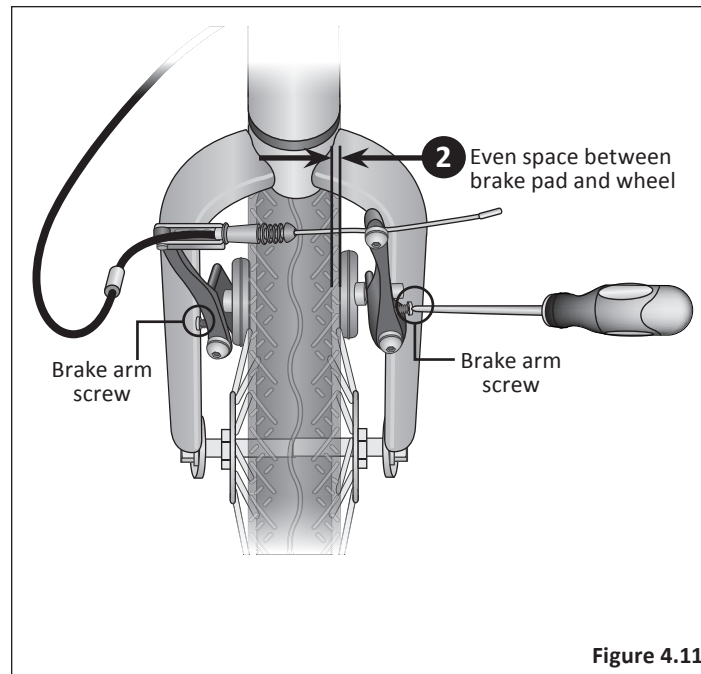

Figure 4.11
- Using a phillips head screwdriver, adjust the brake arm screws on either side of the brake arm. **Note:** Turning the screw **clockwise** moves the pad away from the rim. Turning the screw **counterclockwise** moves the pad towards the rim. **Figure 4.11**